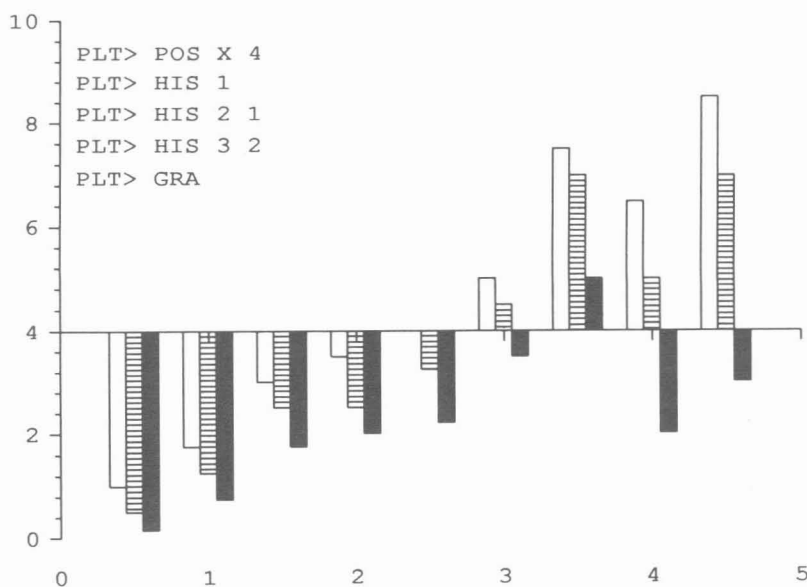
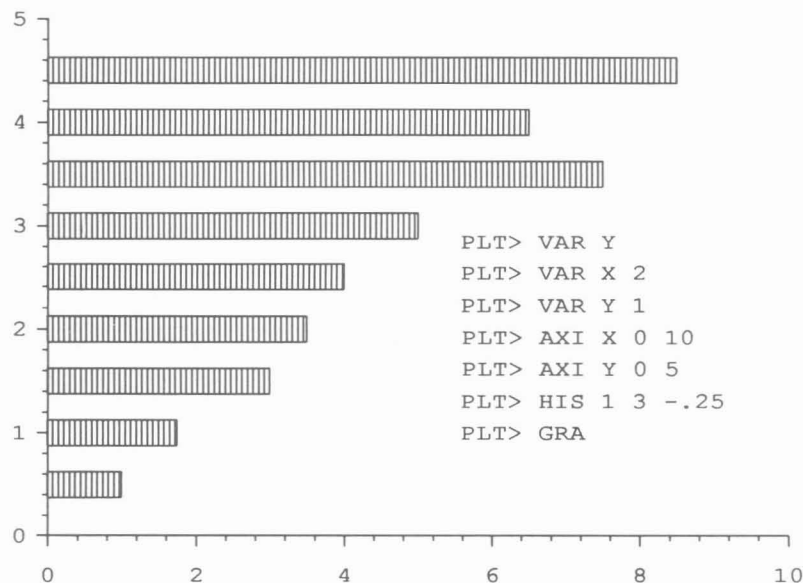

Figure 17. Use of the HISHistogram command.
Figure 18. Histogram with horizontal bars.
The HIStogram command is used to define curve CURV in the plot-queues as a histogram (Figure 17). By default, the histogram bars are left empty (SHAD=0). To change this default, you must specify one of the following shading patterns:
number of histograms (Figure 17). The **WIDTH** parameter (expressed in units of the X-axis) has 2 uses: (1) to alter this default width (the last **HISTogram** command determines the width of all bars; any width may be specified), and (2) to make **PLT** draw the histogram bars **HORIZONTALLY** by specifying **WIDTH<0** in units of the Y1 (left-hand) axis (Figure 18).
The FONT command changes the character set used by PLT for all printing (ticmark values, axis titles and DRAW-mode text). By default, PLT uses the hardware character set of the device being used (ID=0). In addition, there are a number of software fonts (ID=1 to 9) that are drawn rather than typed on the output screen or page (Figure 18). Only one font can be used in a given PLT graph. However, up to 6 graphs with independent fonts may be drawn on the same surface (see the SAVE and RETRIEVE commands). Because of the inherent limitations of the TEKTRONIX 4014 protocol, composed characters are not printable when the hardware font is used.